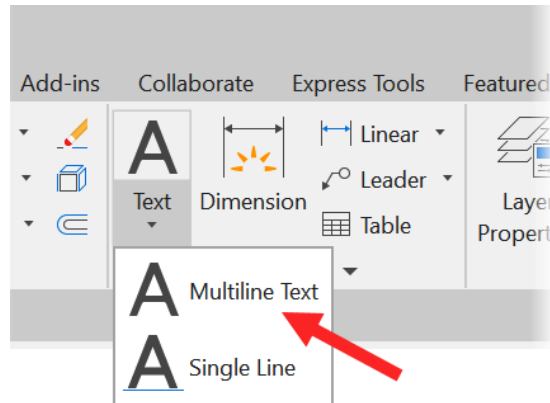

Figure 8.20: The Multiline Text (MTEXT) option on the text flyout in the Annotation panel
5. Select the **Multiline Text** option from the text flyout in the **Annotation** panel on the ribbon, as shown in *Figure 8.20*: